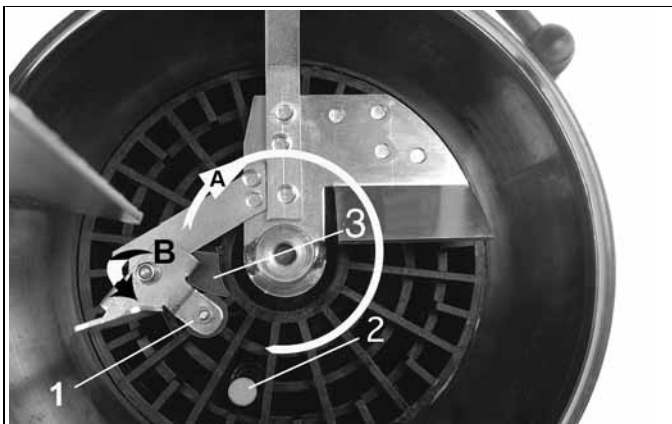

Fig. 8-1 Switching parts of the low-level control (reservoir filled)
- The entry of the stirring paddle B (fig. 8-1) into the lubricant presses the pivoted guiding plate with the round solenoid 1 inwards to orbit A.
- Control cam 3 guides the round solenoid with the pivoting guiding plate automatically outwards, in the direction of the reservoir wall. When leaving the control cam, the lubricant presses against the guiding plate and moves the solenoid inwards again (B).